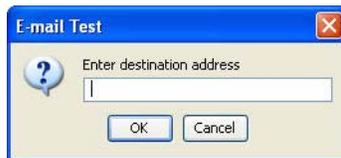

FIG. 152
2. The E-mail Test screen shown in FIG. 152 displays. Type an e-mail address to send the test message to and click the OK button to send the test e-mail.